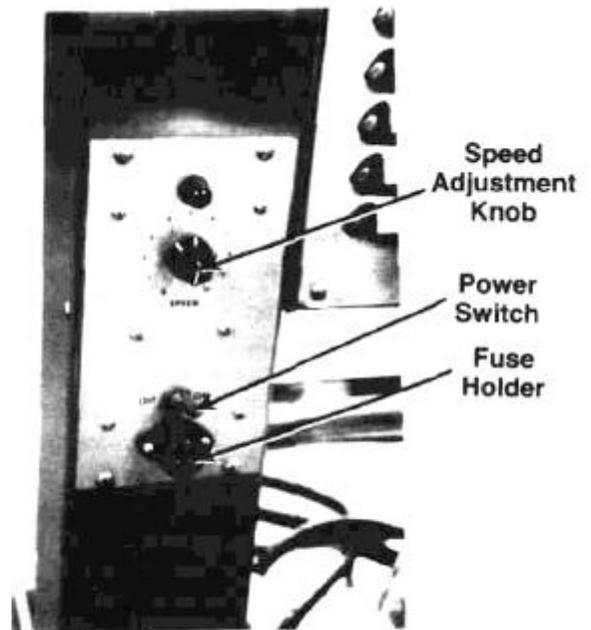

Figure 2
3. Turn the speed adjustment knob to the lowest setting. (See Figure 2) *